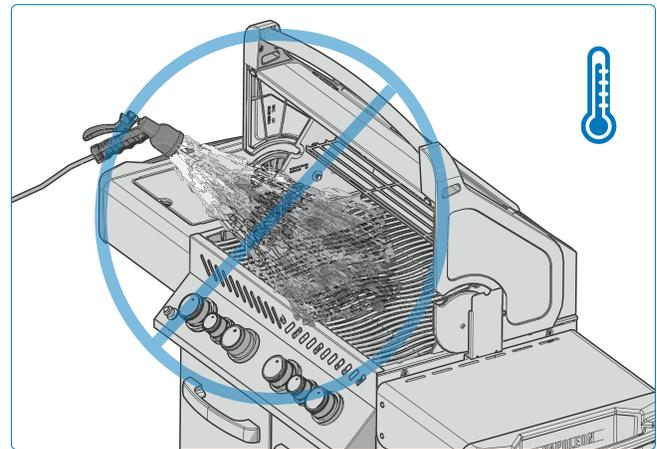

Fig. 28
1. Never douse a flame or control flare-ups with water (see Fig. 28)